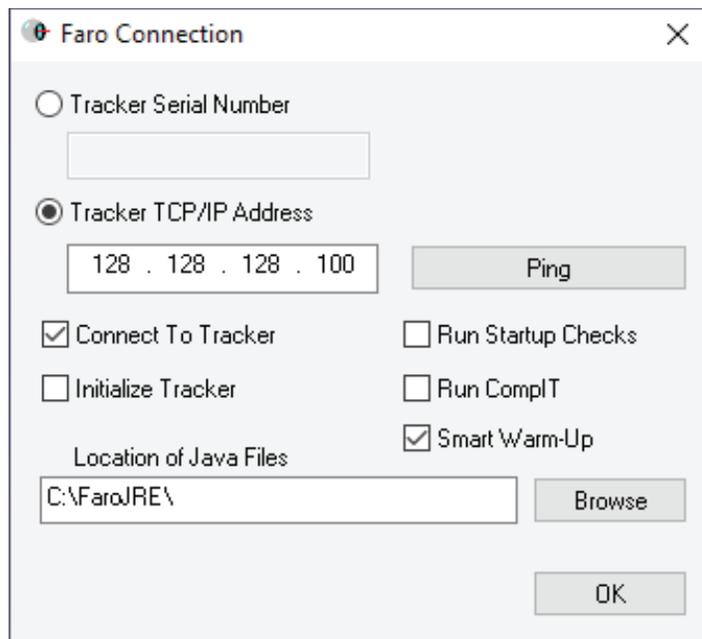

Figure 14-64. The Faro Connection dialog
4. This will bring up the *Faro Connection* dialog (Figure 14-64).